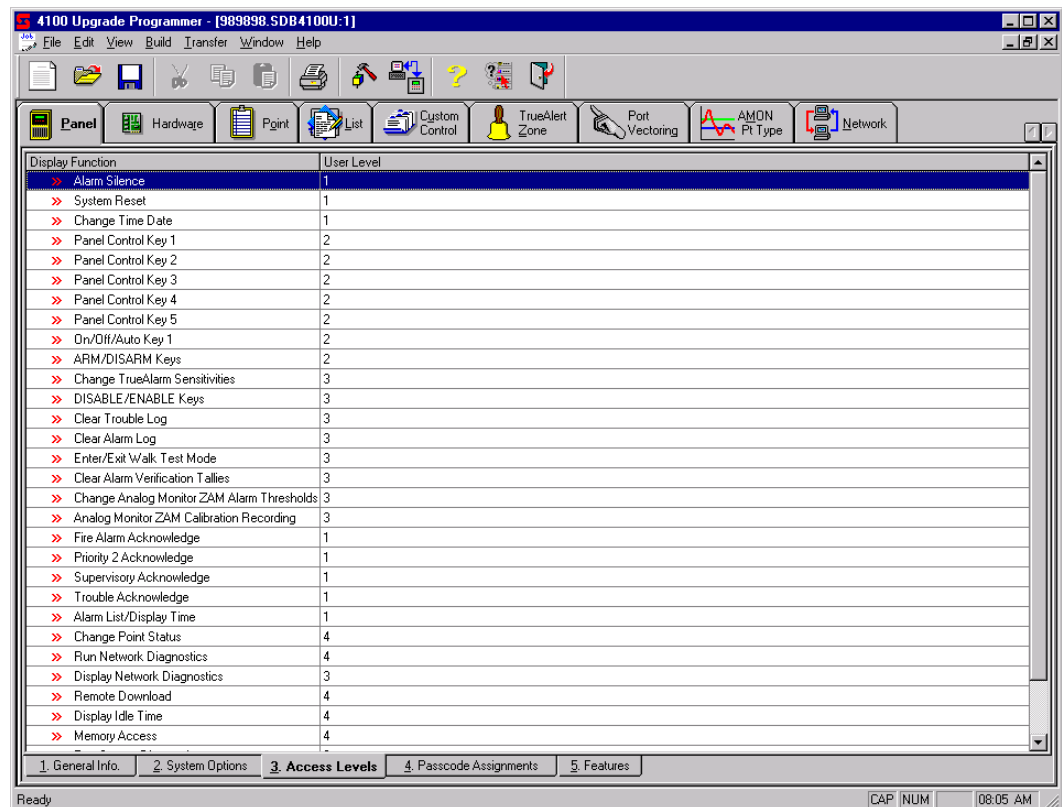

Figure 4-3. Access Levels Screen
2. Click on the Access Levels tab at the bottom of the programmer. A screen similar to the one shown in Figure 4-3 appears.